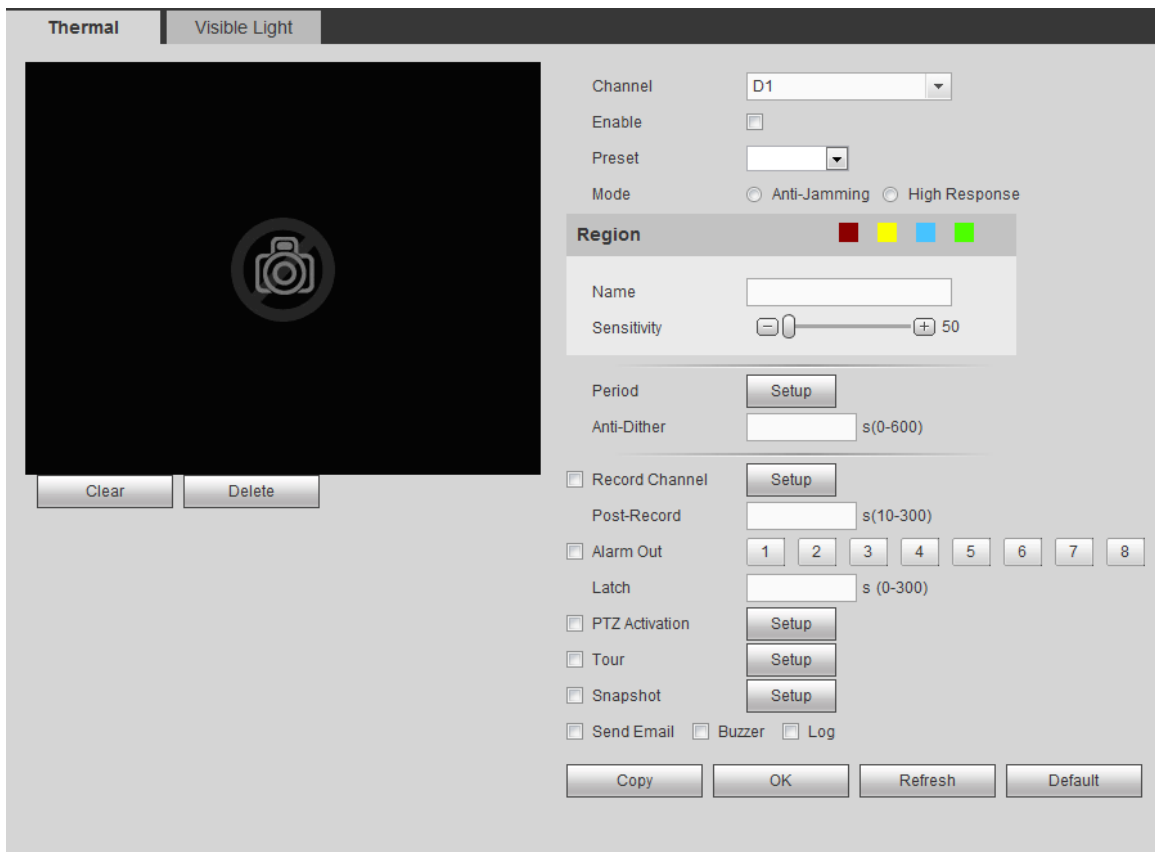

Figure 4-59
- The Thermal interface is displayed. See Figure 4-59.